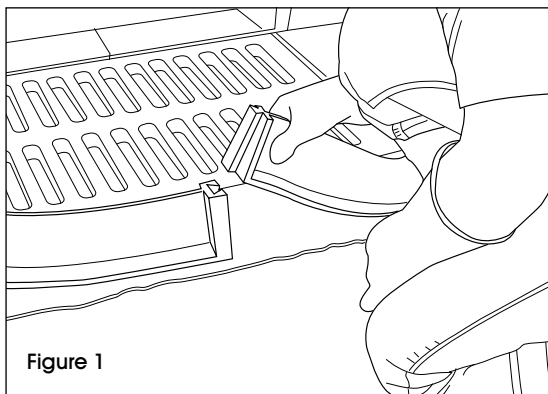

Figure 1
2. **For H-8678 Only:** If longer lengths are needed, connect multiple 5' spill dikes using the built-in interlocking connectors. (See Figure 1)